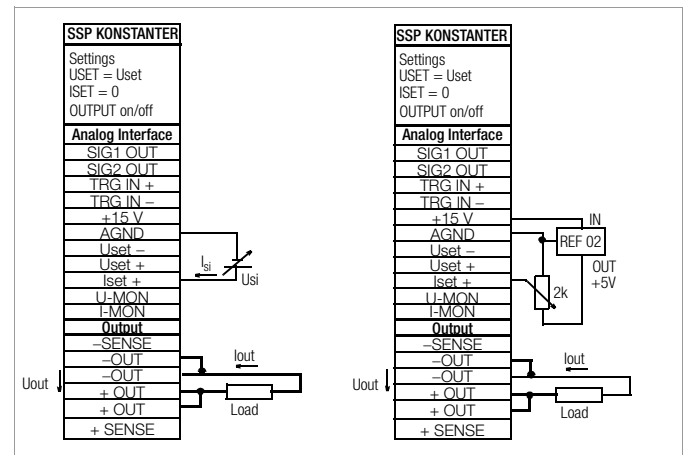

Figure 5.5 Wiring for Controlling Output Current with External Voltage / External Potentiometer
- Control voltage **U_{si}** may **not** be connected to the **negative output pole** at the load side. (Figure 5.5)
- If **remote adjustment** of output current is to be accomplished by means of a **potentiometer**, wiring can be laid out as shown in Figure 5.5.